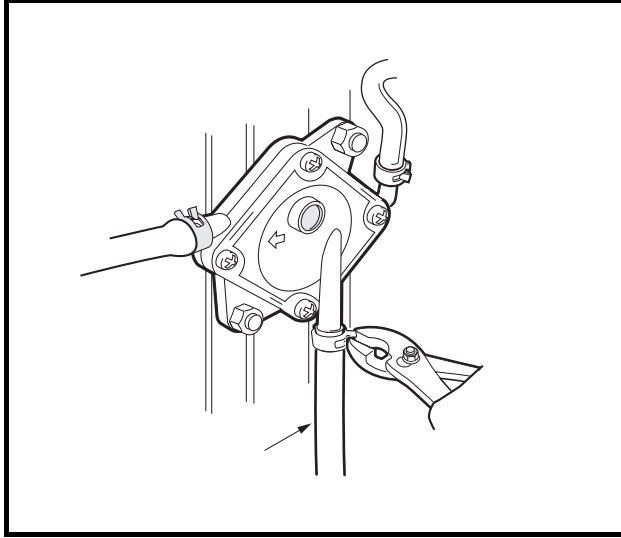

Figure 19-49 Impulse Line
26. Connect the impulse line to the fuel pump and secure it with the hose clamp (**Figure 19-49, Page 19-18**).